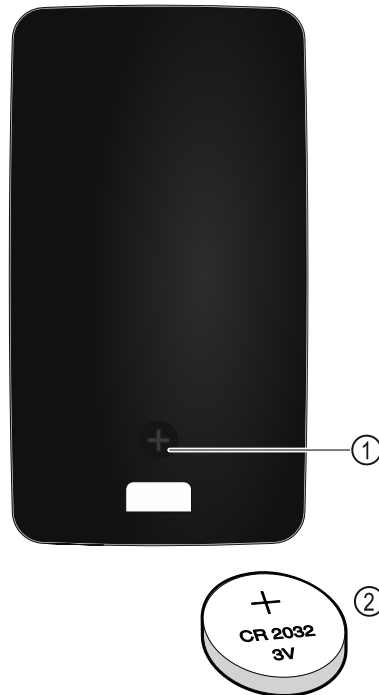

Fig. 229
The remote control is powered by a 3V CR 2032 battery Fig. 229 (2) available from specialist retailers.
- ▶ Undo screw Fig. 229 (1) on the back of the remote control.